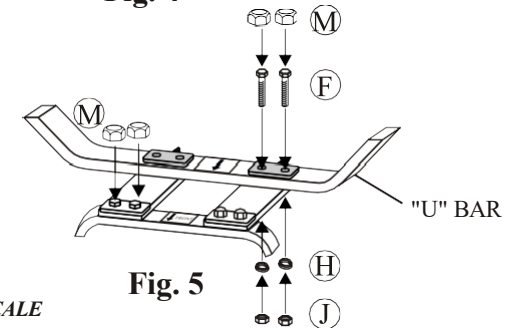

Fig. 5
Step 6: Critical Step: The "U" metal plates must be installed in the proper location. Read this step and carefully examine. Align the holes in the U bar with the holes in the rocker plates. Insert a "U" metal plate as shown in Fig.4. Guide the 5/16"x35mm bolts through the holes in the "U" metal plate, "U" bar, rocker plate, and bottom portion of the "U" metal plate as shown in Fig. 5. Add a Ø8.0 x 2.3 mm spring washer and a nut to each bolt as shown in Fig.5. **Hand tighten only.** Repeat the same procedure on the other side.